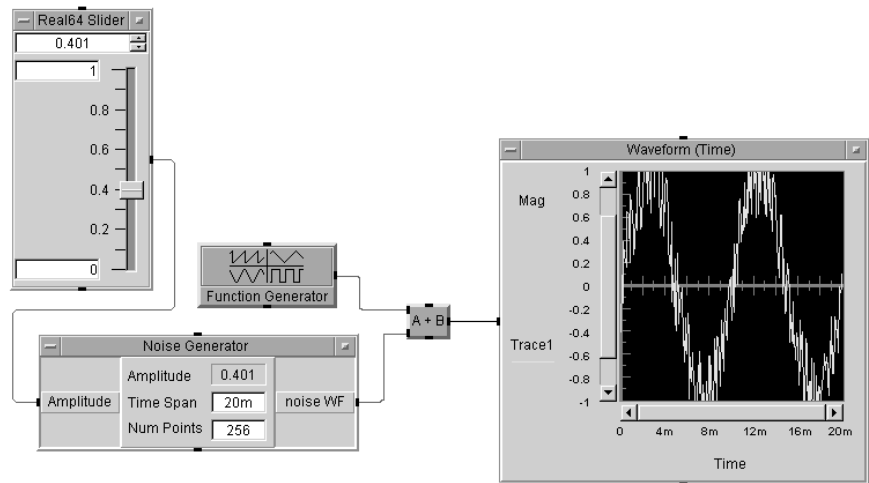

Figure 38 Example: Adding a Real64 Slider Object
- 3 Add a Real64 Slider object (**Data** \Rightarrow **Continuous** \Rightarrow **Real64 Slider**) and connect its data output pin to the Amplitude terminal, as shown in Figure 38. Run the program.